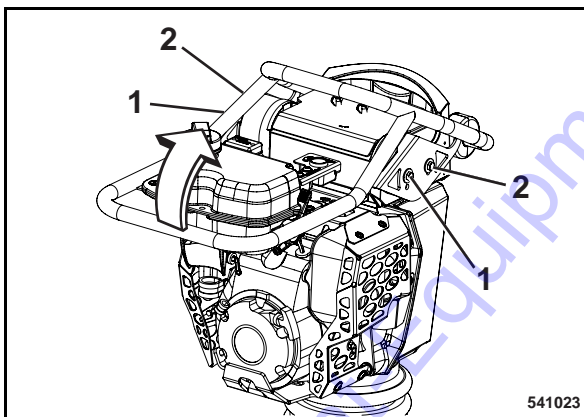

Fig. 35
- Loosen the screws (1, 2) (Fig. 35) for the guide handle.
- Pull the screws (1) out on right and left hand side and fold the steering handle up.